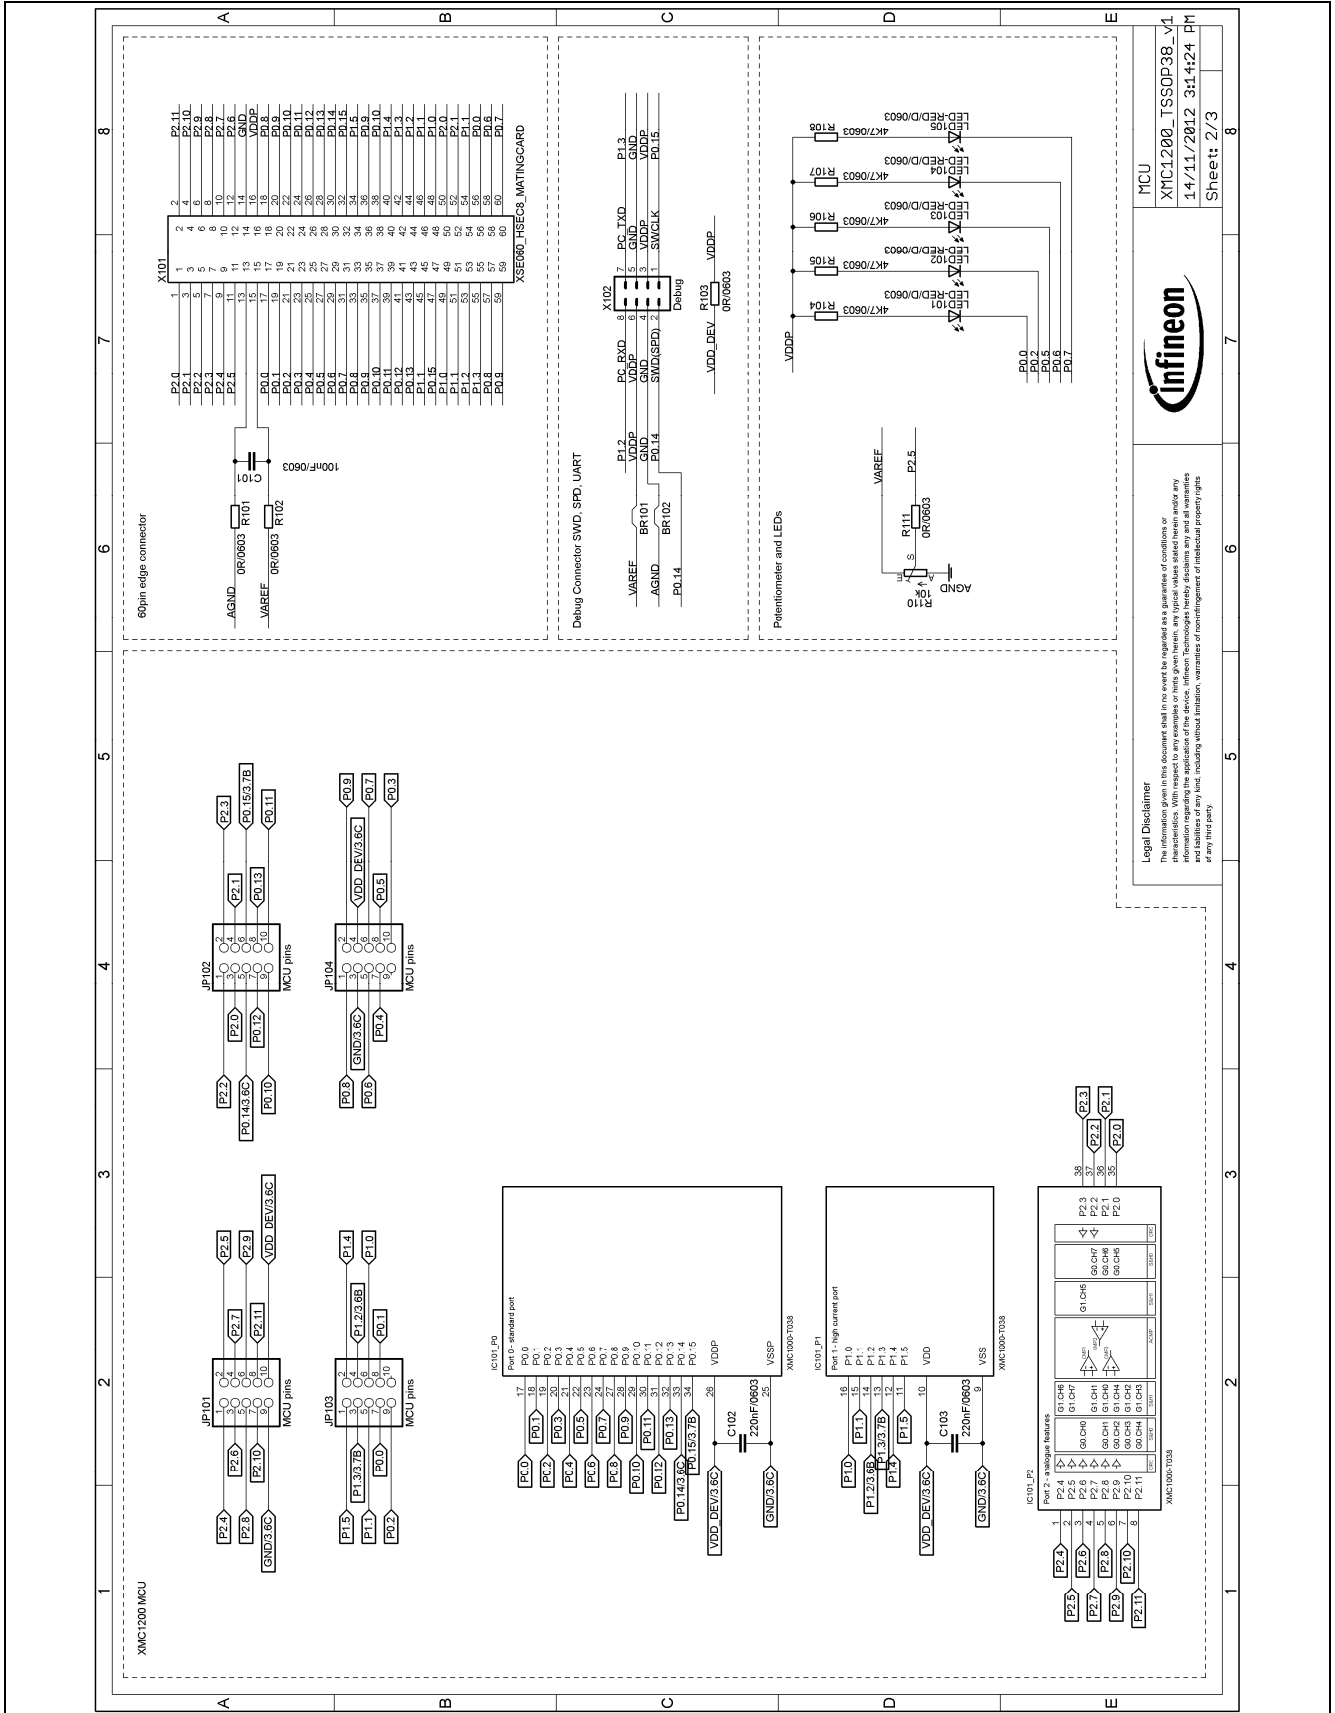

Figure 7 Schematic 1 of 2 XMC1200 CPU Card
- Figure 7: CPU, Pin Headers, Potentiometer and LED and 60pin Edge connector